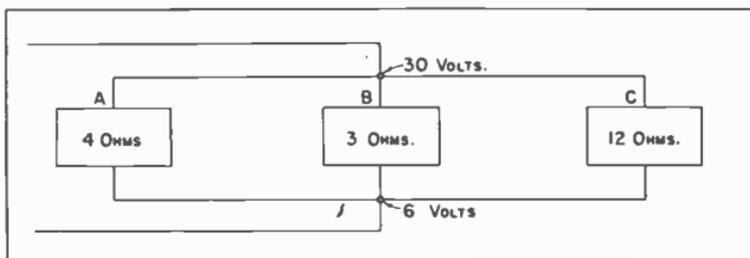

Fig. 37. Three Resistances Connected In Parallel.
do is use Ohm's law which says $I = E/R$. As an example, consider the parts shown in a parallel connection by Fig. 37. The potential at the top of the diagram is 30 volts, at the bottom is 6 volts, so the potential difference across A, B and C must be 24 volts. A voltmeter connected across any one of these units would read 24 volts.
The resistances of the units of Fig. 37 are marked in the diagram. Knowing the potential difference (E) and the resistance (R) for each unit allows finding the currents for each unit as follows:
The total current for the units of Fig. 37 must be the sum of the separate currents, or must be $6 + 8 + 2$ amperes, which makes a total of 16 amperes.
Now let's consider the three units of Fig. 37 as a group. For the entire group we know that the potential difference is 24 volts, which is the same as the potential difference for each unit. We have figured out that the total current is 16 amperes for the group of parts. Now, what is the effective resistance of the entire group of units, or what would be the resistance of a single unit equivalent to the three?
ably a number of volts into which each of the numbers of ohms resistance will easily divide. For the resistance of Fig. 37 we might select 72 volts. Then we figure out the separate currents for 72 volts instead of 24 volts and find that they will be 18, 24 and 6 amperes. The total current then is the sum, $18 + 24 + 6$, or is 48 amperes. Finally we use Ohm's law to find the effective resistance, this way,
The rule usually used in cases like this says that the sum of the reciprocals of the separate resistances equals the reciprocal of the equivalent resistance. The reciprocal of any number is 1 divided by that number. To apply this rule to the example of Fig. 37 we would have to add the reciprocals of the resistances.